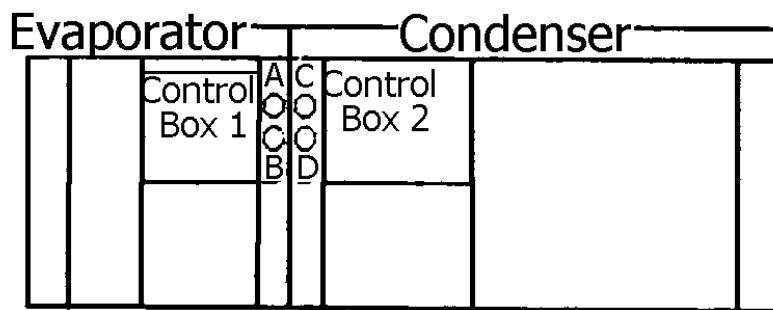

Fig. 3
4. Remove and discard the wires, which run between the two internal control boxes. (See Fig. 3)
If the unit is to be installed as an integral unit, low voltage (thermostat) wiring is to be brought through connection A, and power wiring will be brought through connection D. (See Fig. 3) See unit specification plate for power wiring minimum circuit ampacity and maximum fuse size.